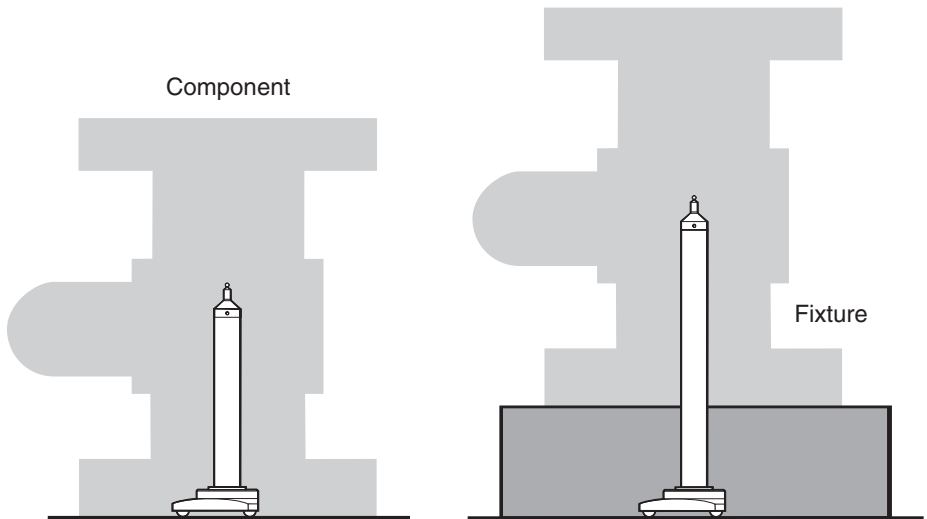

Figure 5 - Building a tower
4. Construct a tower using the base, pillars and pivot. When building the tower, ensure that the pivot ball height will be approximately half the height of the component to be measured. If the component is mounted on a fixture, take any added height into account (see figure 5). Tighten the pillars by hand.